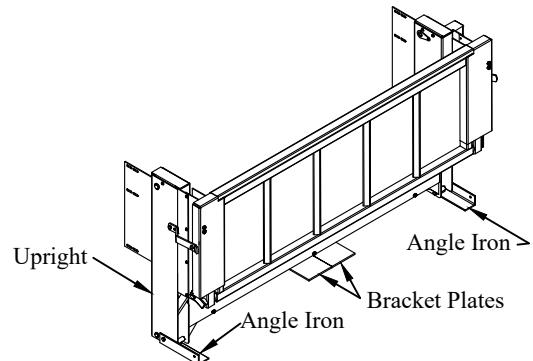

Figure 2: Complete liftgate.
4. Unbolt the two (2) angle irons attached to the liftgate uprights (Figure 2).
5. Remove the two (2) bracket plates attached to the liftgate (Figure 2).